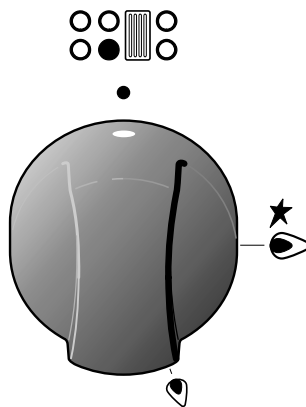

Fig. 4.3
Each hob burner is controlled by a separate gas tap operated by a control knob (fig. 4.3) which has 3 positions marked on the knob, these are:
- The electric ignition is incorporated in the knobs (★ symbol beside flame 🔥 - max. heat/max. gas flow fig. 4.3).
- 1) Lightly press and turn the knob anti-clockwise, and make the symbol ★🔥 printed on the knob to match with the indicator on the control panel (fig. 4.3).